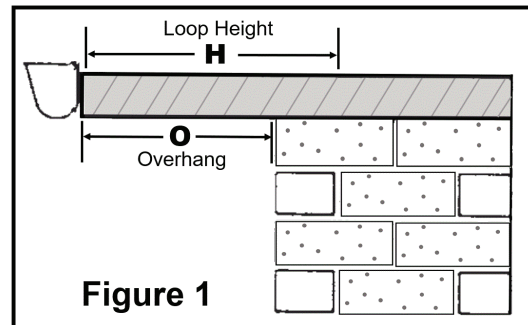

Figure 1
- Step 2: Measure the overhang (shown in Figure 1), if applicable, and determine the length multiplier for the type of roof, Table 2. Once Overhang Multiplier is identified, enter the multiplier on the second blank in "1".